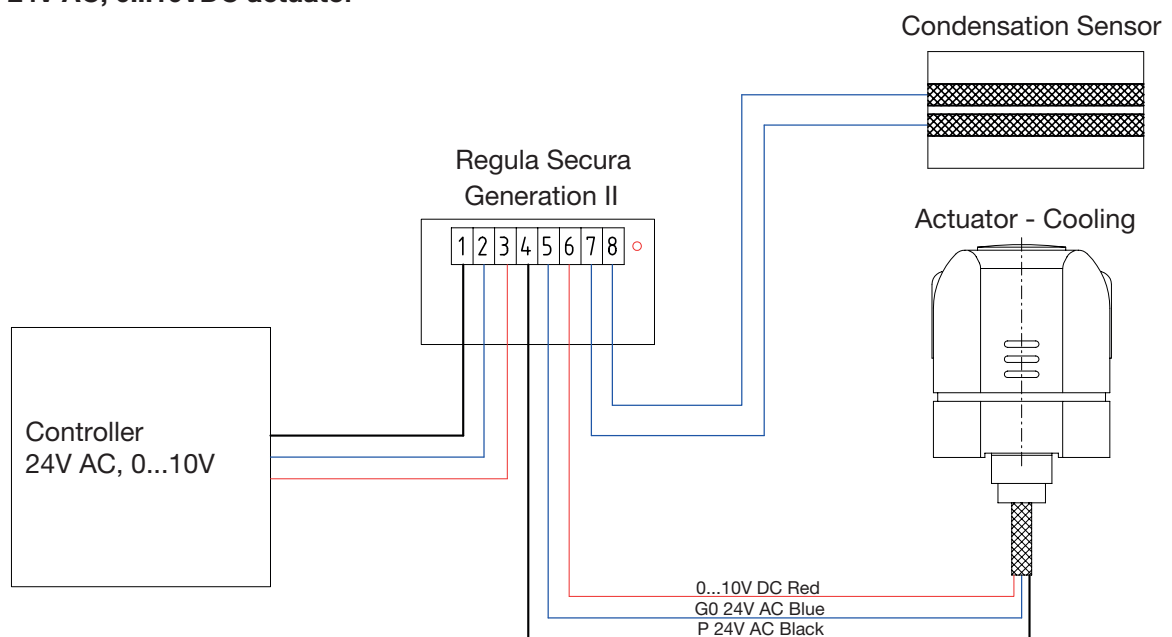

Figure 5. Connection schemes 24 V AC on/off and 24 V AC, 0-10 V.
- Connection is done according to connection scheme (Figure 5) or according to an actual scheme from wiring scheme configurator on www.lindQST.com.
1. Check that all is fitted according to Figure 5, page 3.